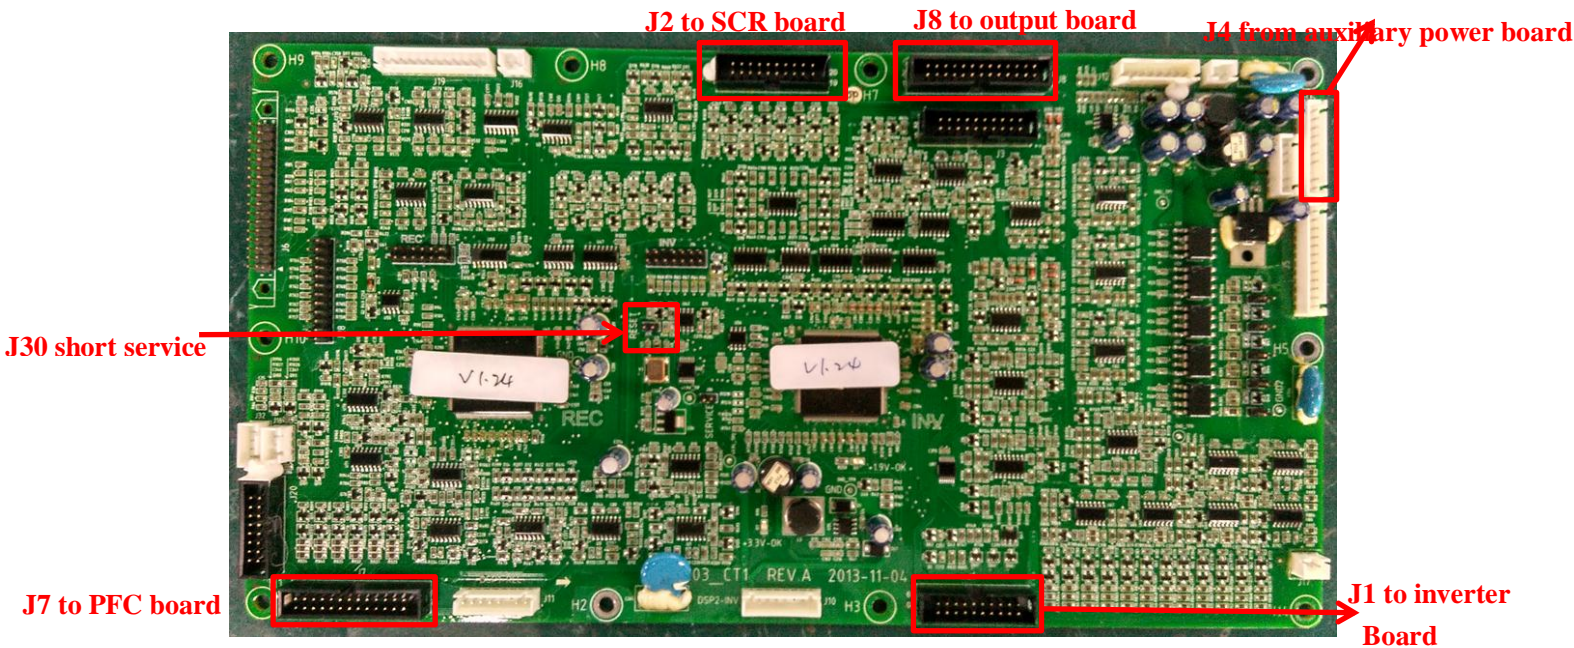

Fig 3-21 Control board
3.4.3 Make the service jumper (J30) is shorted circuit, as is shown in Fig 3-21.